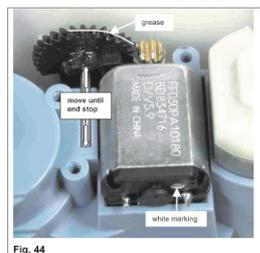

Fig. 44
- Put the prepared motor, part-no. 57674 into place. Take care for the right position of the white marking! (Fig. 44)
- Put a thin stripe grease to the half gear. (Fig. 44)